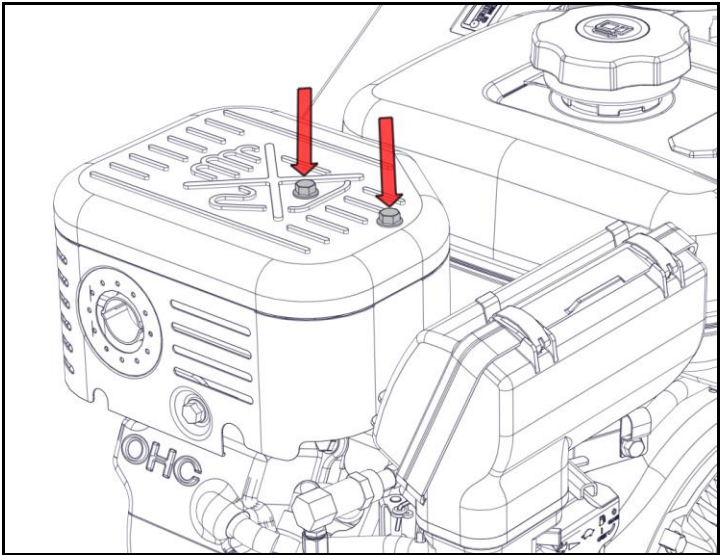

Figure 4 – Exhaust heat shield bolts
- Remove and discard the two bolts from the top of the engine exhaust heat shield (Figure 4).